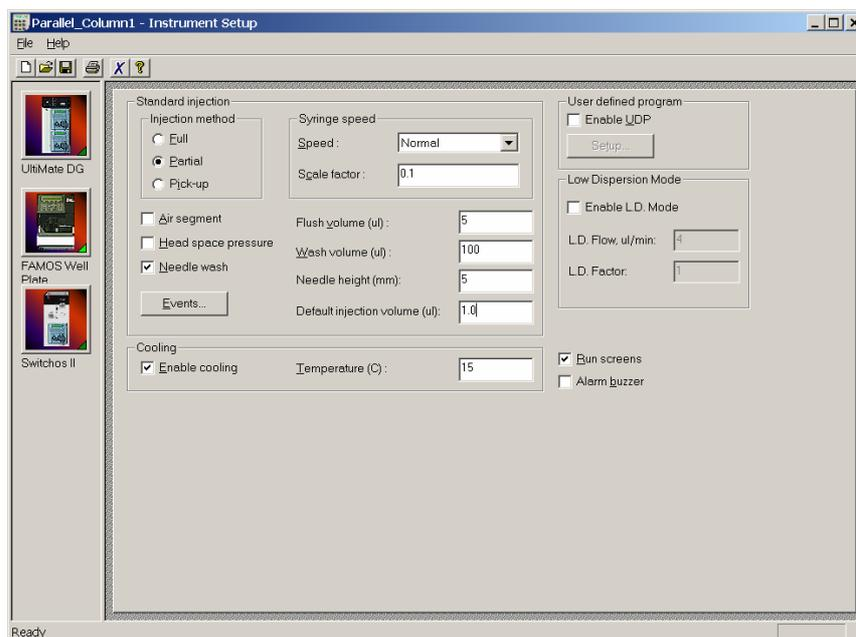

FIGURE 3-21 The FAMOS Setup Window
- g) Choose the *FAMOS* icon in the **Instrument Setup** window to display the FAMOS setup window (FIGURE 3-21) to program the injection parameters as presented in TABLE 3-3.